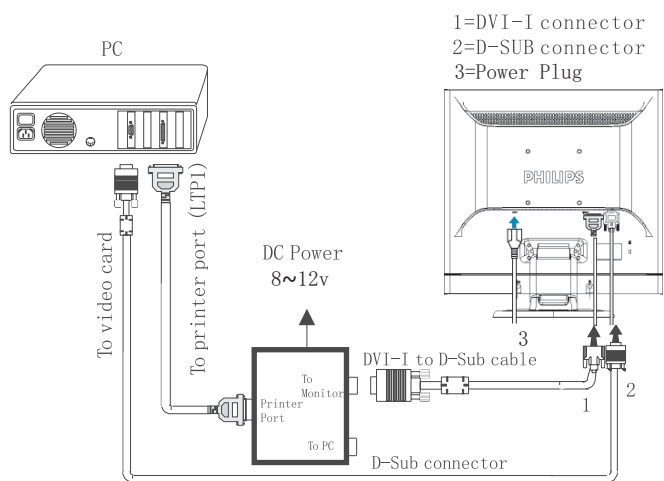

Fig.23
Step 1: After initialize alignment box, connecting all cables and box as shown in Fig. 23